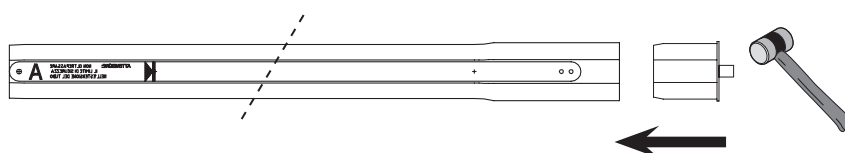

Fig. 12
The cap (Fig. 1 ref. 5) must be installed directly on the cap sleeve (Fig. 1 ref. 2). See figure 12